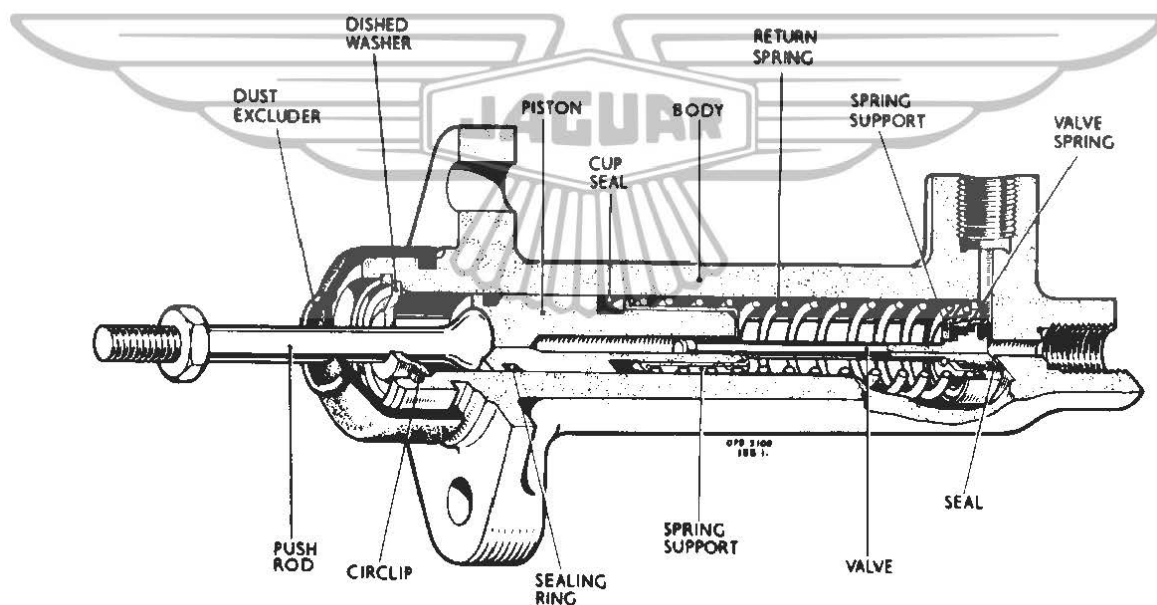

FIG. 2.
- (5) Wash cylinder, push rod, rubber dust excluder in methylated spirit or clean brake fluid. Check that cylinder bore is in good condition and that dust excluder and dished washer are undamaged.
- (6) As the piston and valve assembly are not anchored together, ensure during fitting that the piston end of the valve stem locates in the piston bore. (See Fig.2.)
- (7) Lubricate the cylinder bore with brake fluid; insert the piston and valve assembly until the piston fitting sleeve engages in the mouth of the cylinder. Push the piston firmly through the fitting sleeve and remove the sleeve when the piston assembly is fully home in the cylinder bore.
With this change the self adjustment arrangement is modified. The spring washer, shown in Fig.2, Section L of the Mark 2 Service Manual is no longer used, the retraction being by a coil spring located in the piston.